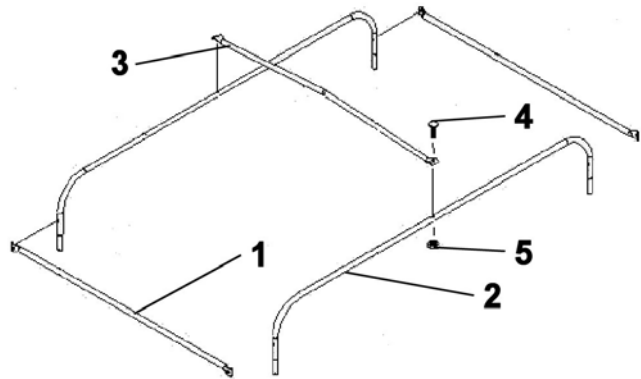

Figure 1
Assemble the top portion of the frame by attaching the link tubes (fig.1, item 1) to the side tubes (item 2) and in the middle, the reinforcement tube (item 3) (angled portion facing upwards).